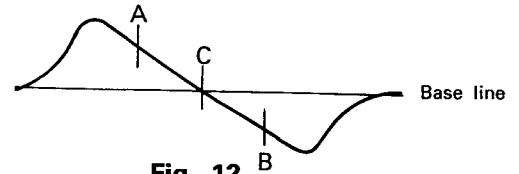

Fig. 12
5. Use the T203 core to form the S-curve shown in Fig. 12. Adjust the symmetry of A and B about point C for linearity.